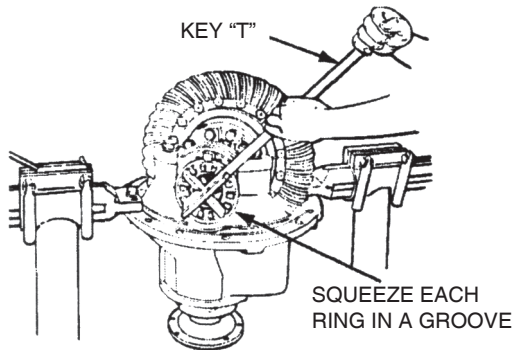

Figure 5.39
5. Tighten each bearing adjusting ring one notch from ZERO. The side bearings of the main differential case should have a preload of 15-35lb-in (1.7-3.9N m). Figure 5.39.